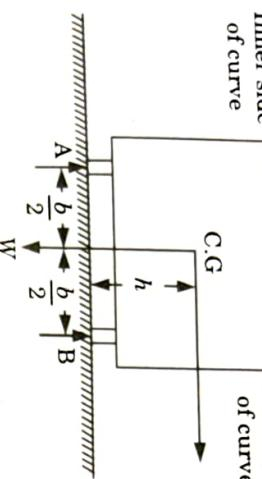

Fig. 2.15.1. Overturning due to centrifugal force.
- The centrifugal force that tends the vehicle to overturn about the outer wheels B on horizontal curve without superelevation is shown in Fig. 2.15.1.
From Fig. 2.15.1, the equilibrium condition for the transverse skid resistance developed is given by: